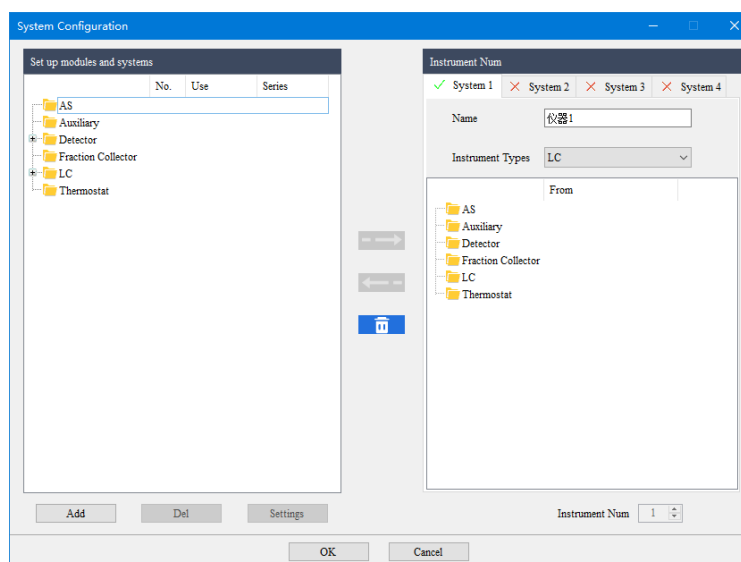

Fig.4-8 Configuration Interface 02
2) The system configuration interface is displayed. As shows in Fig 4-8: